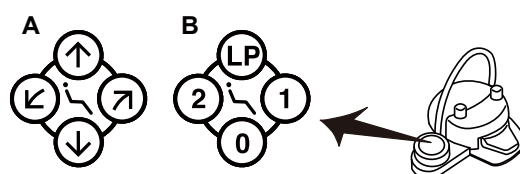

Fig.3-34 Foot Switch
(3) Foot Switch (Optional) (Fig.3-34)